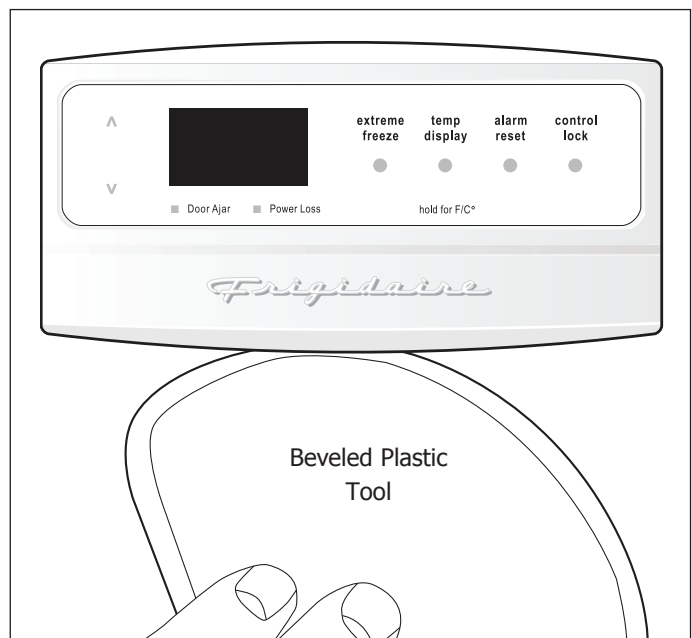

Figure 5-9. Precision Set Control Removal
2. Using a small flat bladed screwdriver or equivalent tool (See Figure 5-9), carefully pry under the bezel until the retaining latches release from the door assembly. Pull control assembly straight out to avoid damaging the electrical connection wire prongs.